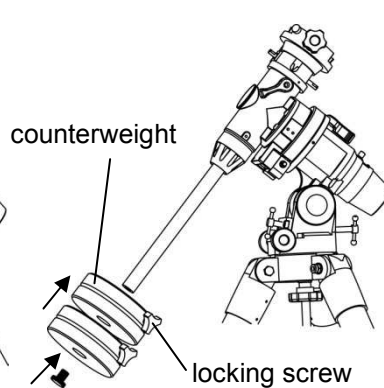

Fig 5
- 1.4.4 Locate the counterweight(s) and slide them halfway along the counterweight bar. Tighten the counterweight locking screws to secure (fig 5).